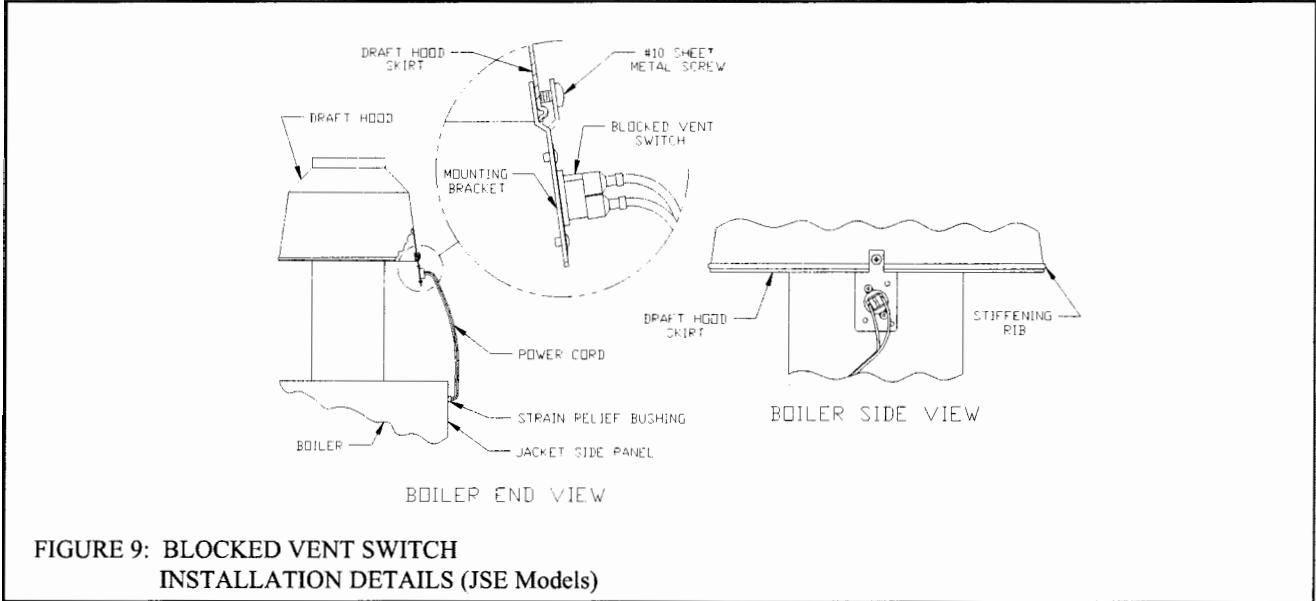

FIGURE 9: BLOCKED VENT SWITCH
10) Install blocked vent switch assembly on JSE boiler models equipped with external draft hood (see Figure 9). The assembly consists of power cord and switch attached to mounting bracket and is shipped taped to the top of boiler jacket on JSE models. The procedure is outlined below:
- b) Position mounting bracket onto lower edge of Draft Hood skirt. Locate center tooth (with #10 sheet metal screw) on outside and other two teeth inside Draft Hood skirt. See Figure 9.
- f) Verify power cord, mounting bracket and Blocked Vent Switch are secure and located as shown in Figure 9.
- 13) The vertical section of vent pipe coming off the boiler should be as tall as possible, while still maintaining the proper clearance from the horizontal vent connector to combustibles and the proper pitch called for in (9) above.
- 17) Vent damper installation is mandatory on all JSI and JSE/ boiler models. Install vent damper (see Figure 9) as follows: